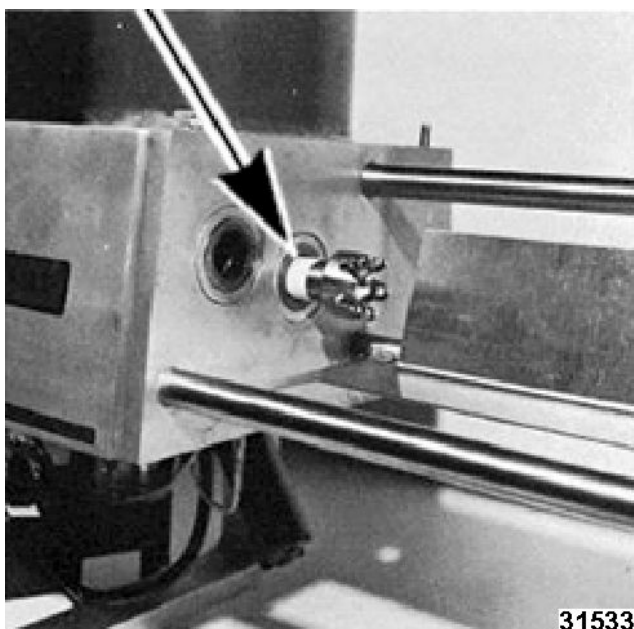

Fig. 38
- 2) Wrap the shaft with a piece of paper (Fig. 38) which slightly overlaps.